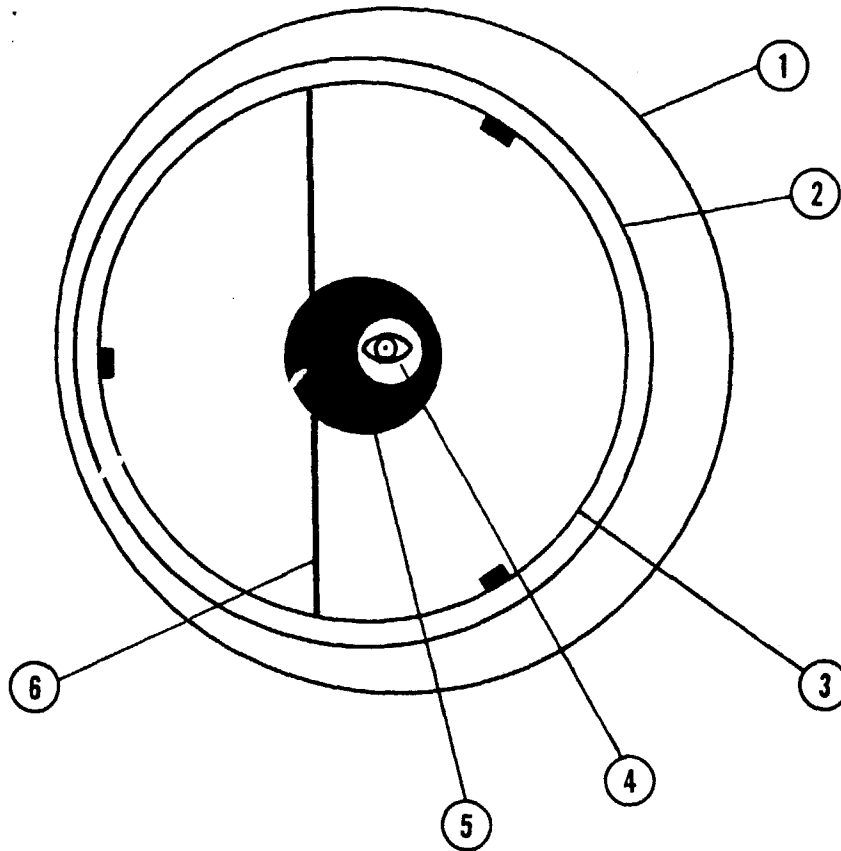
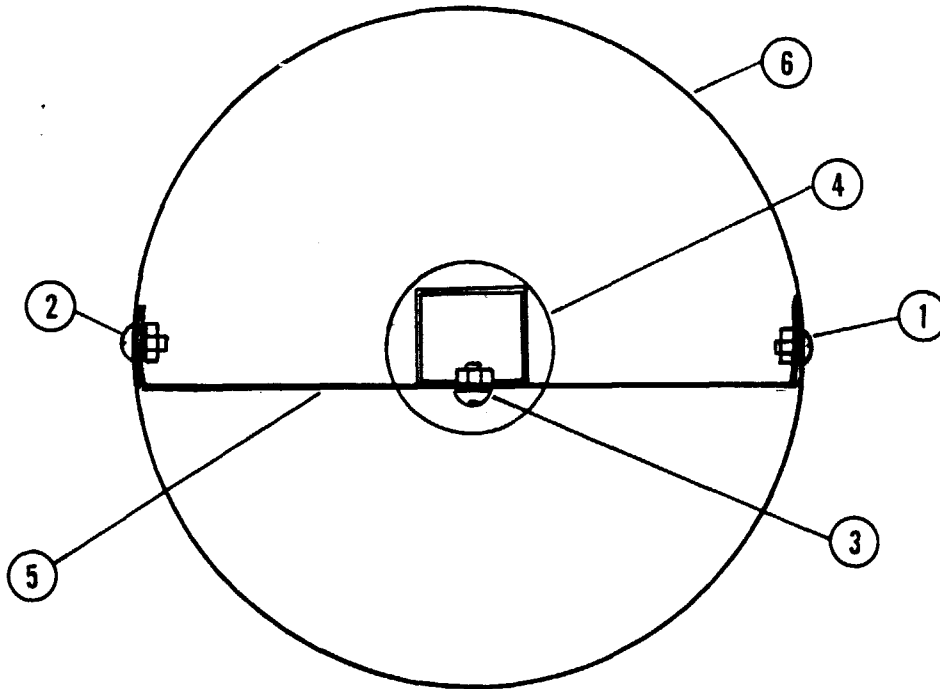
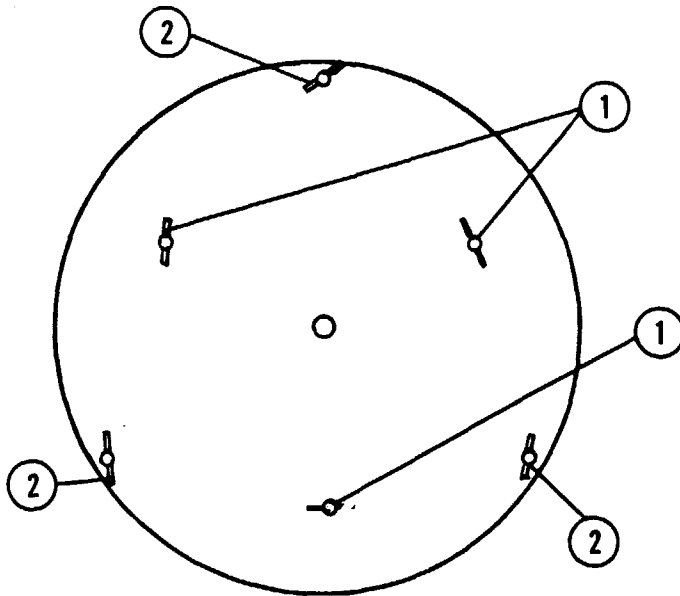

FIG. 2: Collimation of the DS-10 Optical System
FIG. 3: The Secondary Mirror System
FIG. 5: Primary Mirror Cell (As seen from behind the primary mirror.)
Fig. 2 shows a correctly collimated DS-10 telescope, as it appears when viewed through the focuser with the eyepiece removed. To check and, if necessary, set the optical collimation follow these steps:
Step 1: Observe through the focuser, without an eyepiece, and with your body oriented so that the telescope's primary mirror is to your left, and the open-end of the telescope tube is to your right. The secondary mirror (circle 2 , Fig. 2) should appear slightly offset to the left, as shown in Fig. 2 . If the secondary mirror does not appear correctly offset, then slightly loosen the secondary-mirror-holder's attaching screw (see (3), Fig. 3), and move the secondary mirror so that this mirror appears offset as shown in Fig. 2 .
Step 2: Center the primary mirror (circle 3 , Fig. 2) in the secondary mirror. This centering, if necessary, is accomplished by loosening slightly screws (1) and (2), Fig. 3 , so that the single-strut steel vane, (5), Fig. 3 , may be pivoted up or down. In addition, loosening screw (3), Fig. 3 , permits lateral centering of the primary mirror in the secondary mirror. Re-tighten all screws when the required centering is accomplished.
Step 3: Turn the wing nuts located on the back side of the primary mirror cell (see Fig. 5), so that the dark circle, (5), Fig. 2 , is centered relative to the primary mirror, (3), Fig. 2 . (These wing nuts adjust the tilt-angle of the primary mirror.)